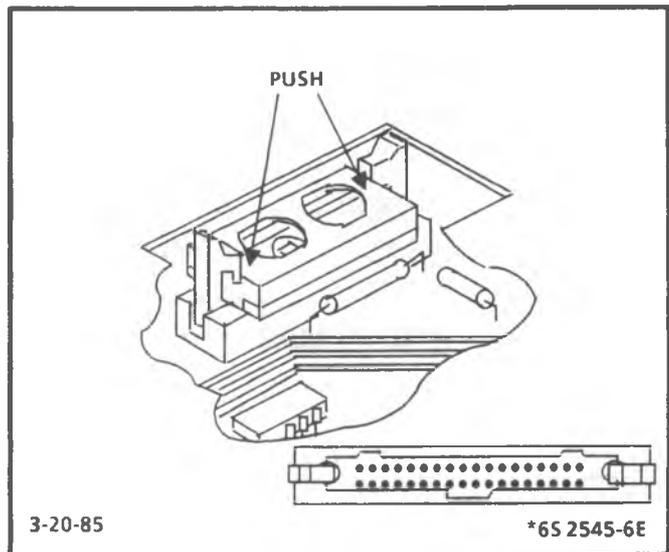

Figure 3-39 - Mem/Cal Unit Installation
3. ECM. Refer to Figure 3-39 for servicing the ECM.